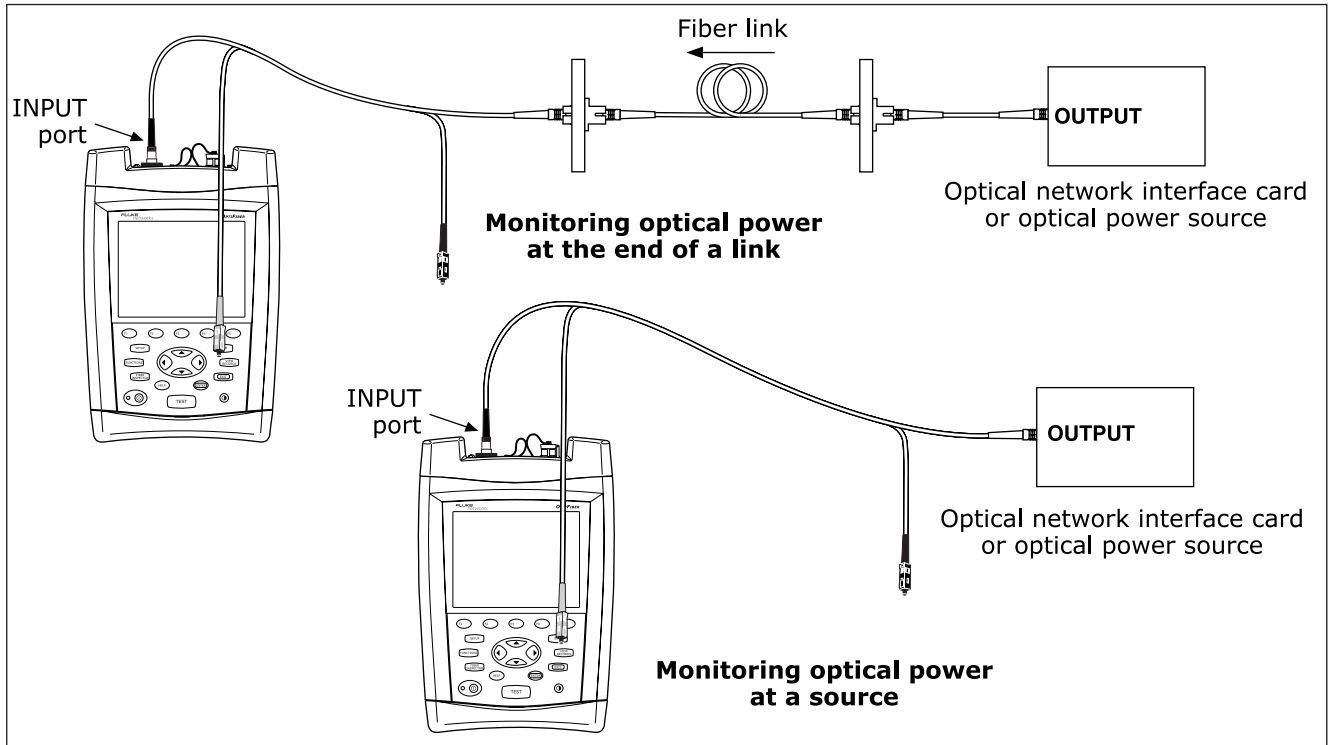

Figure 39. Connections for Monitoring Optical Power
- 3 Use the reference test cord to connect the source to the tester's INPUT port as shown in Figure 39.